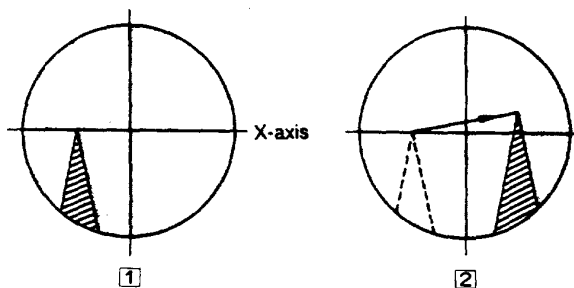
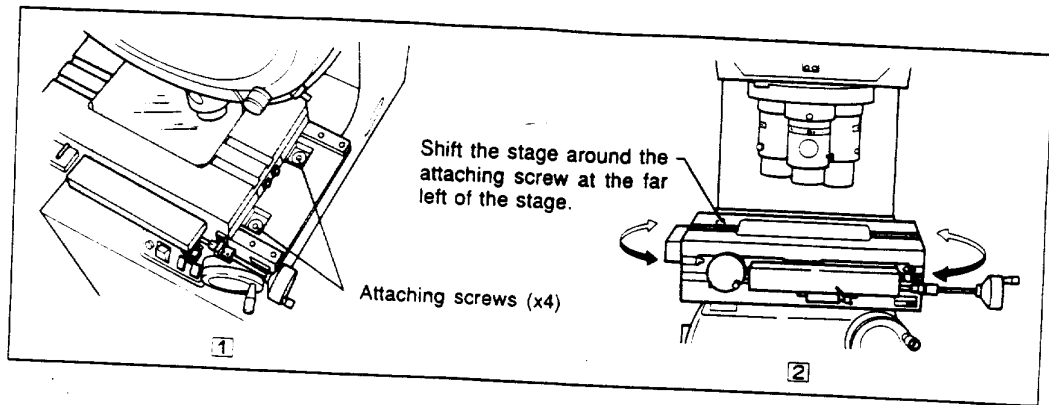

Fig. 8
Fig. 9
- ① Rotate the screen to the angular position 0.
- ② Clean the mounting surface of the stage and mount it on the mounting portion. Fasten attaching screws lightly.
(Fig. 9-①)
- ③ Using a high-powered projection lens (ex. 50 $\times$), project the image of a positive point such as of an angle of specimen using contour or surface illumination, and coincide it with the cross line.
(Fig. 8-①)
- ④ Move the stage horizontally (in the direction of X-axis) and see if the positive point image moves away from the cross line.
(Fig. 8-②)
(Fig. 9-②)
- ⑤ After the above adjustment, fasten the attaching screw firmly.